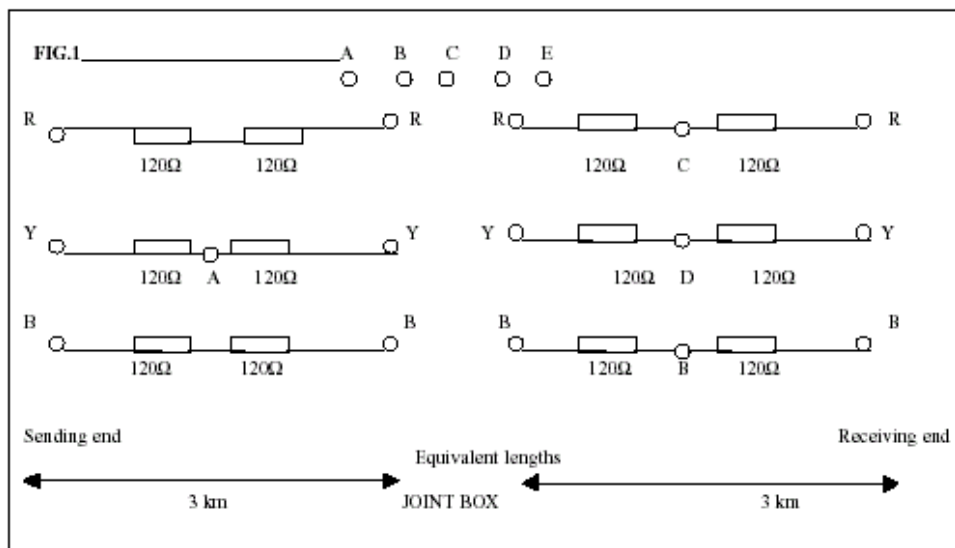

Fig. 10-1
- 6-km cable located in laboratory bench (The circuit for this is shown in Fig. 10-1. It contains four 120-ohm resistors for each phase as shown in the Figure. Each 120-ohm resistor represents 1.5 km of the cable length)
Show details of the calculation for each test and a Table of results. Show the position of all the faults A, B, C and D on Fig.10-1